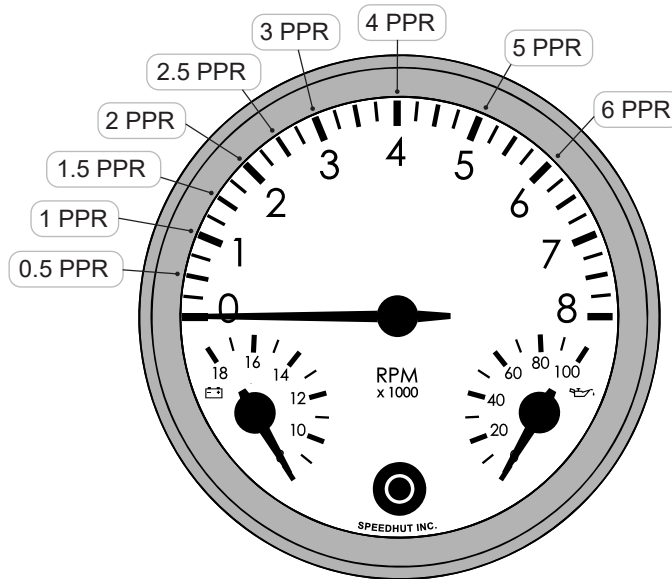

Figure 1.
- 3 PRESS button to toggle between PPR settings (Figure 1) until pointer reaches desired PPR. After 5 seconds, the gauge will save the setting, the pointer will return to 0, and the tachometer will resume normal operation.